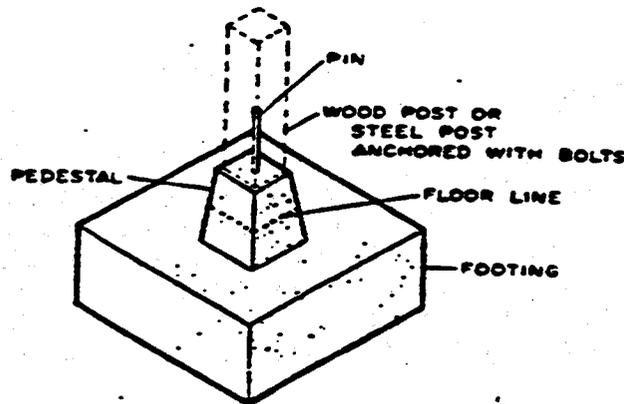

Fig 2-7. Column footing.
b. Column footings. Footings for columns (fig 2-7) should be square and should include a pedestal on which the member will bear. A protruding steel pin is ordinarily set in the pedestal to anchor a wood post. Bolts for the bottom plate of a steel post are usually set when the pedestal is poured. At other times, steel posts are placed directly on the footing and the concrete floor is poured around them.